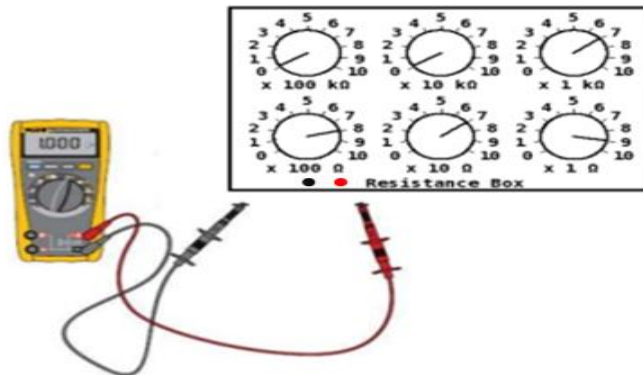

Figure2. Measure the resistance of the resistance box
1. Every increasing in the resistance of the resistance box from 0Ω to 9Ω , decreasing from last reading of increasing (9Ω) to 0Ω was measured by using an ohmmeter and recorded in the table1 (see figure2).